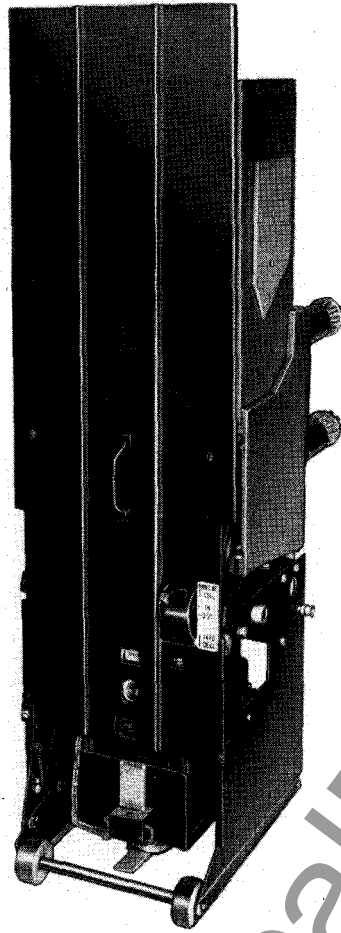
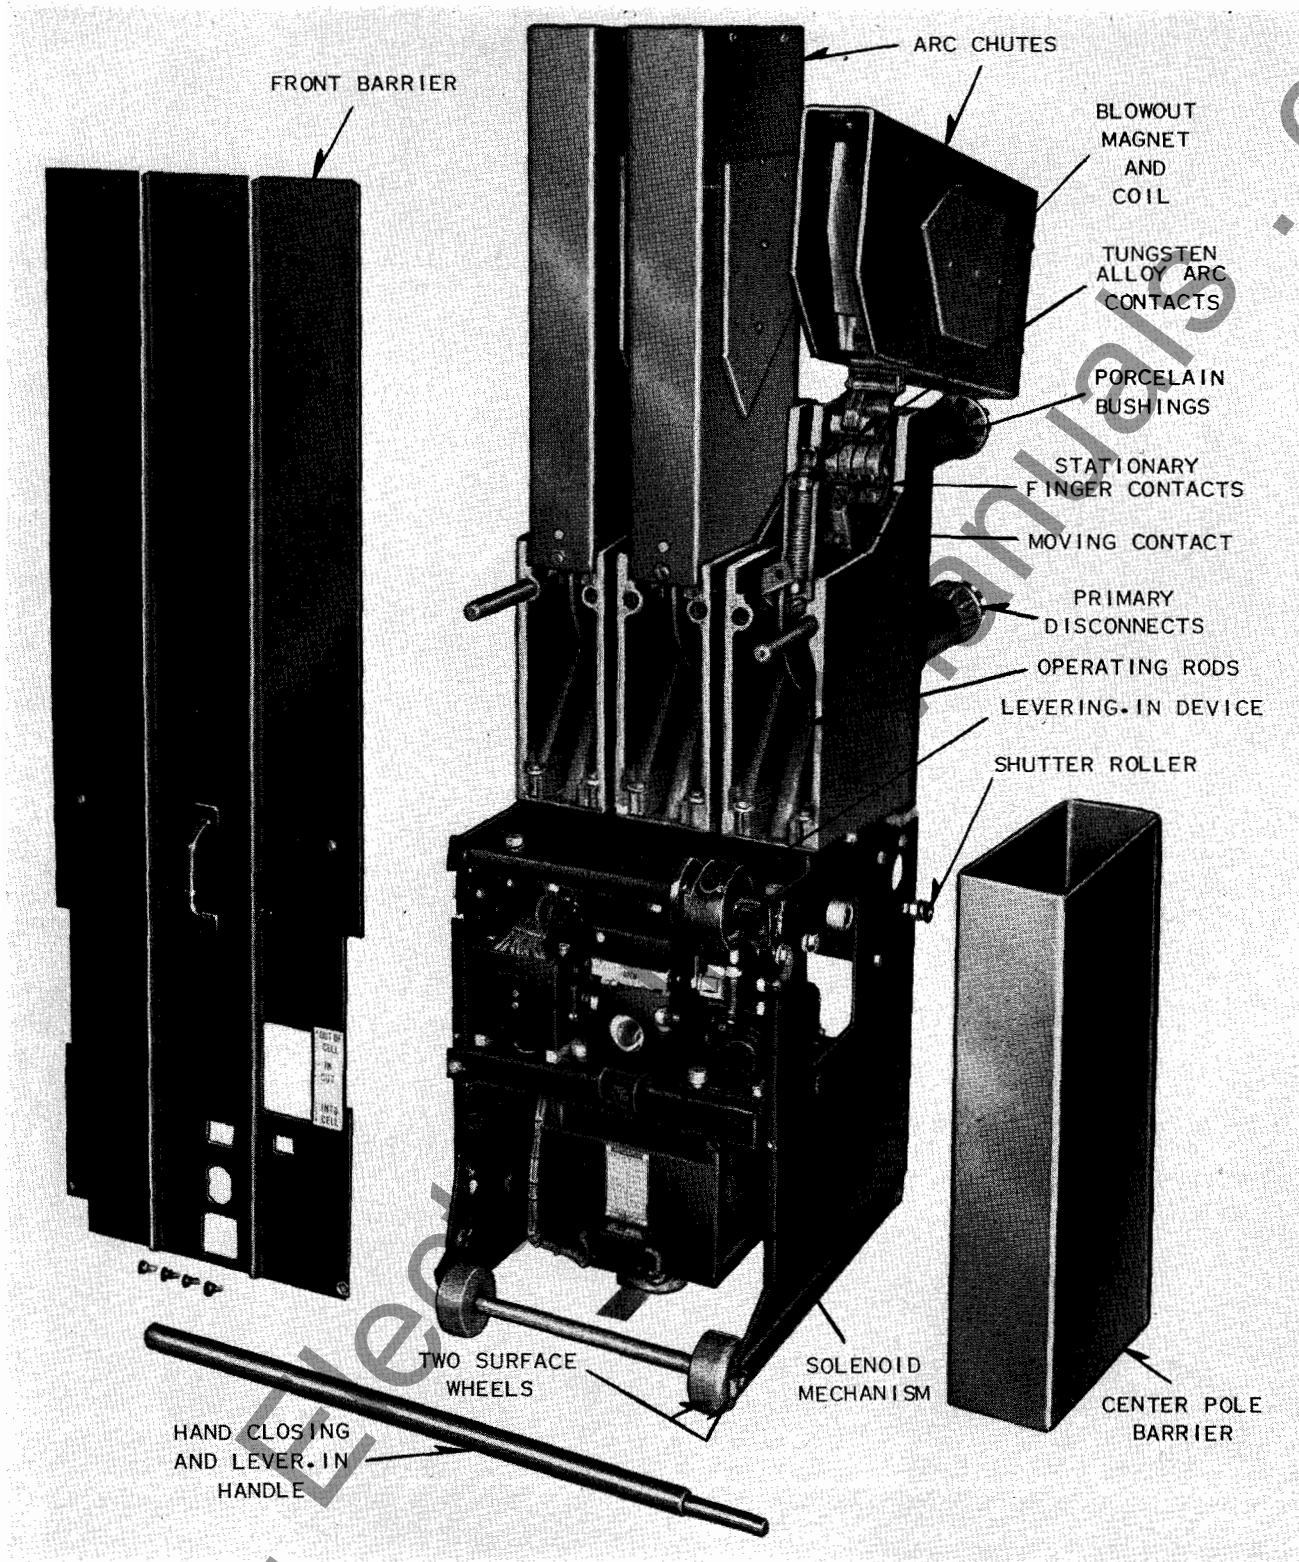
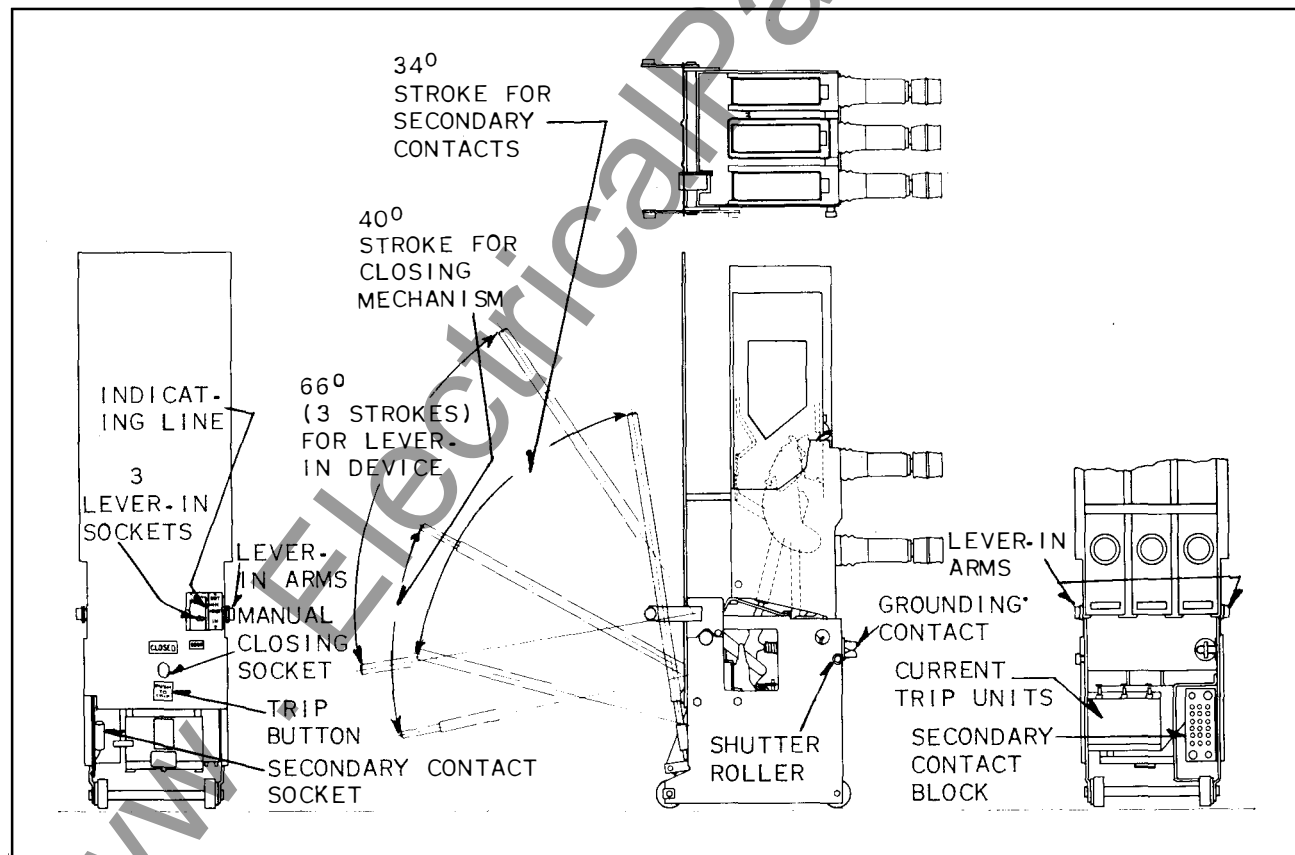

FIG. 1. Type 50-DH-75 Breaker
FIG. 2. Type 50-DH-75 Breaker with Front Barrier and Center Pole Barrier Removed
FIG. 6. Breaker Assembly Outline
Figure 1 shows a Type 50-DH-75 breaker completely assembled. Figure 2 shows the same breaker with the front barrier and the center pole shield removed; and one arc chute tilted back. This also shows the combined arrangement of the blowout magnet and the arc chute, the contacts, the insulated operating rods, and the solenoid operating mechanism. These parts are supported on the chassis having flanged wheels for guiding it into the metal-clad cell. At the front of the chassis is the levering-in device for engaging the breaker into and out of the cell. The levering-in device is also interlocked with the solenoid mechanism to prevent the breaker being placed into or out of the cell with the breaker contacts in the closed position. The chassis also contains the secondary control cable contacts, auxiliary switch, puffer assembly, and shunt trip assembly for the standard breaker. Special breakers may include undervoltage and current transformer tripping devices.
1. After the breaker is unpacked and the shipping ties and braces removed, disconnect the front arc horn bolt and tilt each arc chute back as shown in Figure 2. Then close the breaker carefully by hand using the hand closing lever. Make certain that all parts are functioning properly and that there is no binding or excessive friction. As the contacts touch near the end of the closing stroke, the force necessary to close the breaker increases rapidly.
The action of the breaker in interrupting an arc is also shown in Figure 6. When the arcing contacts separate, the arc is drawn between them as indicated by position 1. The arc expands rapidly from this position under the influence of magnetic forces and the thermal effects of the air currents. This causes the arc to pass through the transfer stacks where the short portion between the center arc horns is interrupted putting the blowout coil in series with the arc.
To move the breaker in or out of the cell against the resistance of the contact fingers, a levering-in mechanism is provided on the breaker. This consists of a shaft across the front of the breaker that has an interlocking operating casting, and a moving arm at each end. (See Figure 6). Each lever has a roller which engages a slot on the side wall of the cell. The operating handle is inserted in the casting openings provided for the lever and pushed downward in three strokes which in turn moves the engaging levers that draw the breaker into the cell.
Before the breaker is advanced into the cell, the levers on either side of the breaker must be at their extreme rear downward position as shown in Figure 1. When the breaker is levered into the cell operating position, the levers take the position illustrated in Figure 6. With the levers in the rear downward position, the breaker is ready to be advanced into the cell. When the breaker is being advanced into the cell, the rollers on these arms strike a vertical slot in the cell which stops the advancing movement of the breaker.
**This Is The Test Position.** The breaker may be now operated electrically in this position by first engaging the control wiring contact block with the mating block in the cell structure. Figure 6 shows the manual closing handle in the control wiring socket. A 66 degree downward stroke of the handle engages the control circuits. The breaker may now be closed and tripped electrically.